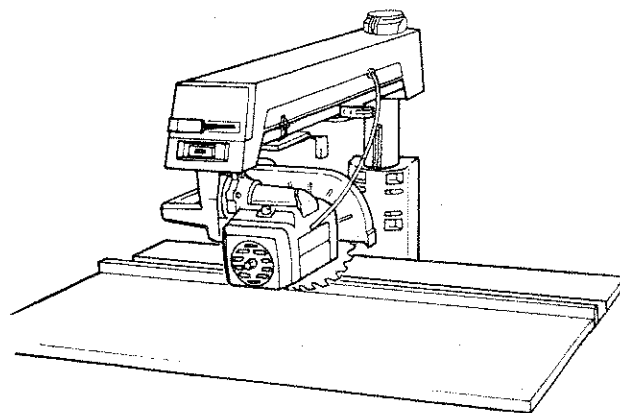

Fig. 75 - In-rip Position
3. Make sure that the lower edge of the *guard* is parallel to the table. (Figure 75)
5. Unlock the *swivel lock* and turn the *motor* to the in-rip position, with the *blade* between the *motor* and the *fence*. (Figure 75)